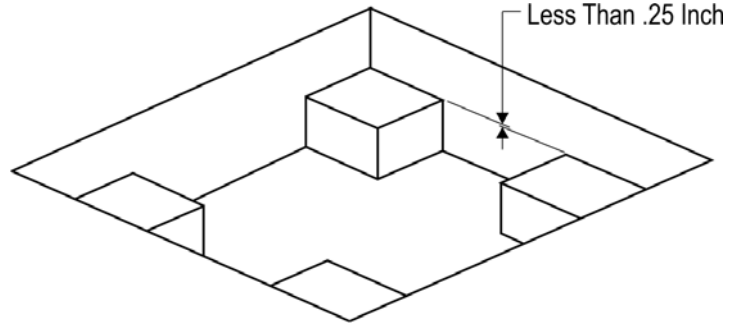

Figure 1
2. The foundation pier area should be large enough so the isolation element does not overhang. The concrete surface directly under the isolation element must be clean and meet the flatness and slope tolerances shown in Table One in the Appendix. A brushed concrete finish is recommended. There should not be any holes, cracks, peaks or valleys under the isolation element. Pier heights should be within 1/4" (8 mm). See Figure 1.